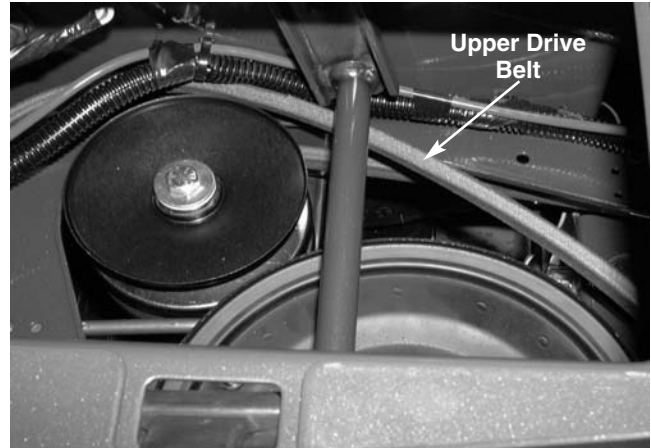

FIGURE 4.
- 6). Remove the upper drive belt from the transmission pulley and the variable-speed pulley. See figure 4.